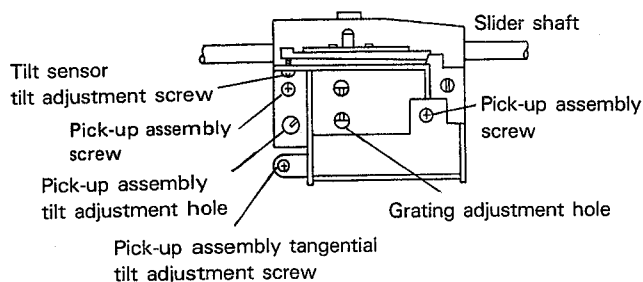

Fig. 10-5
- Note: Be careful not to bend or fold the flexible cable. (Fig. 10-5)